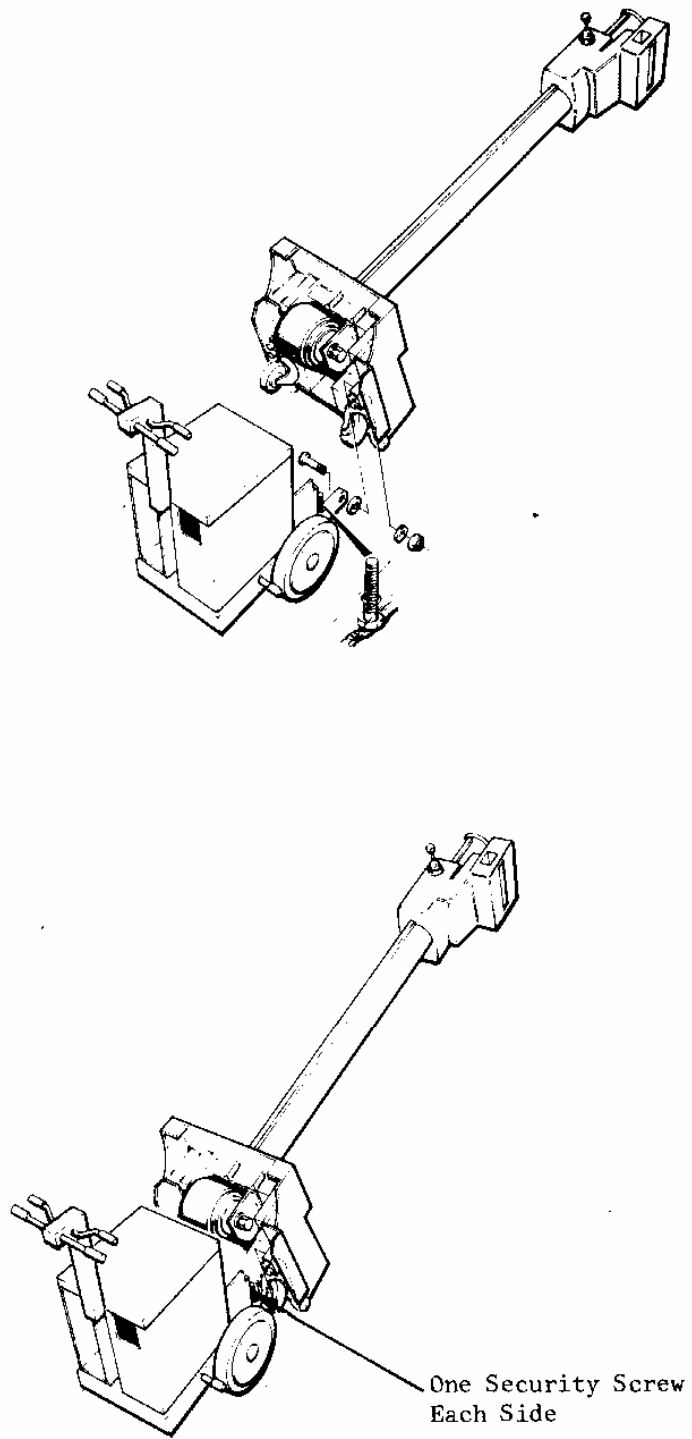

Fig 3 Assembling Mobile Base
3.      ASSEMBLING MOBILE BASE   Fig 3
Fit the column assembly to the main base assembly as shown in Fig 3 using the two bolts, four washers and two nuts provided.